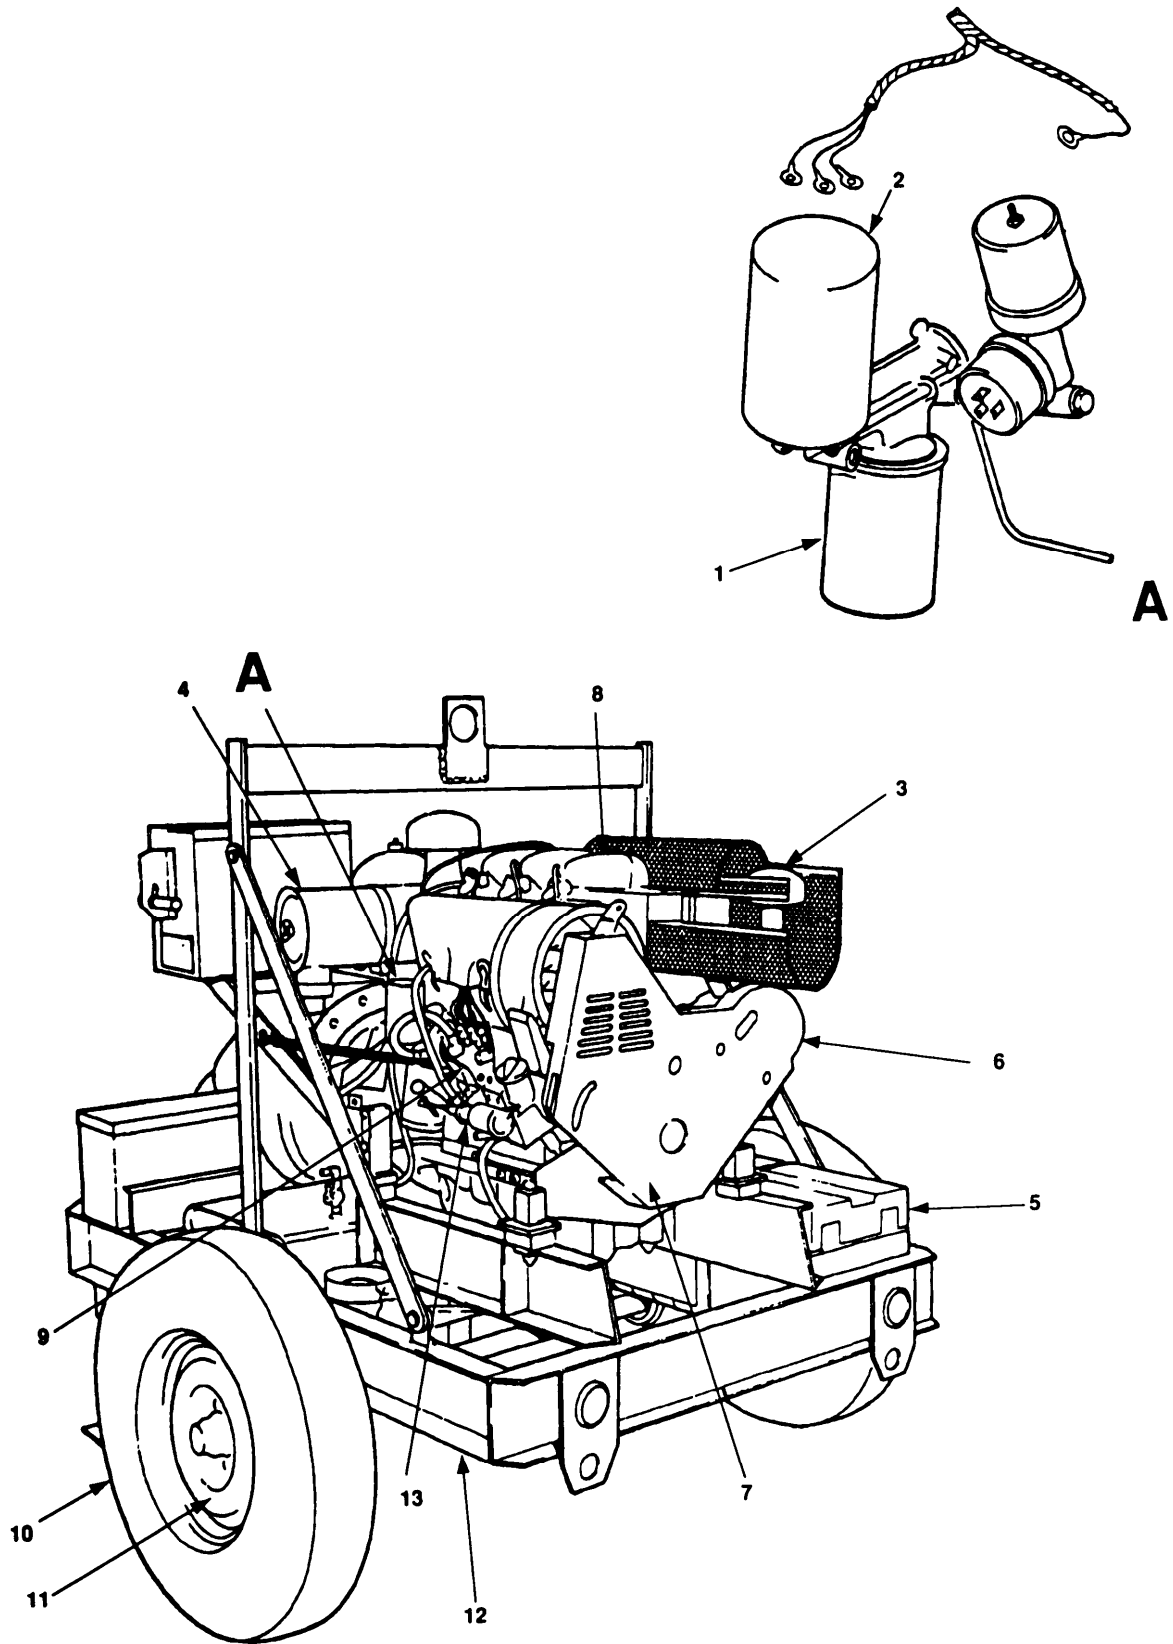

Figure 4-1. Unit PMCS Routing Diagram.
Figure 4-1 (PMCS routing diagram) and table 4-1 (PMCS table) have been provided so you can keep your equipment in good operating condition and ready for its primary mission.
**4.7.2.1 Item No. column.** Numbers in this column are for reference. When completing DA Form 2404 (Equipment Inspection and Maintenance Worksheet), include the item number for the check/service indicating a fault. Item numbers also appear in the order that you must do checks and services for the intervals listed. These item numbers also corresponds to the numbers on the routing diagram, figure 4-1.